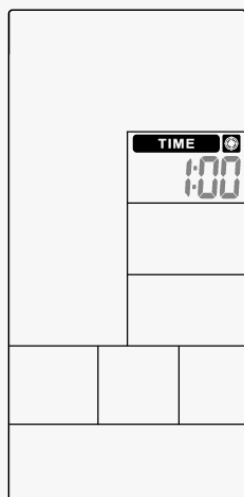

Figure 39
2. TIME  value is flashing, press UP and DOWN to adjust value (Figure 39) and press ENTER to confirm meanwhile buzzer beeps 1s and TIME lasting lighting up.